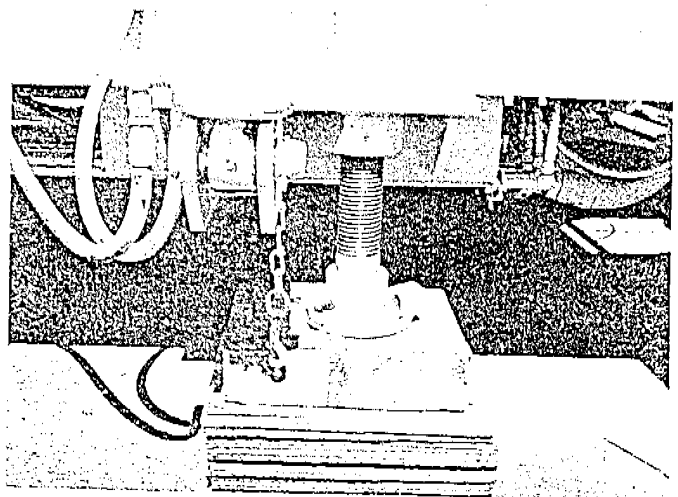

Fig. 8
- (1) Lower the main frame, using the rear landing gear crank. Be sure the screw jack rests firmly on the blocking.
- (2) Continue to crank the rear landing gear handle about $\frac{1}{4}$ to $\frac{1}{2}$ turn to take more load off the rear tires and to pre-load the center of the ride against shock load stresses. (Fig. 8)